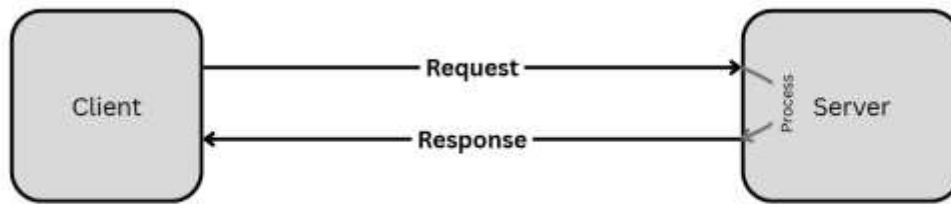

Fig. 3 Services
2) *Services*: Services are just the Client-Server Model and they carry all the advantages and disadvantages of those here as well. Good for when, some processing is needed before fulfilling the request [Fig 3].